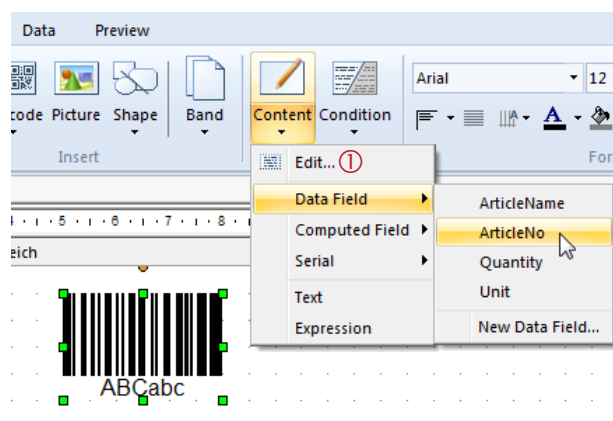

Figure 42: Edit Element Content
In order to edit the content of an existing element, first select the element, then use the menu **Layout ► Edit | Content**. Instead of using the command **Edit...** in ① (see Figure 42) you can also right-click the element and select **Edit Content...** from the pop-up menu, use the keyboard shortcut **F2** or **double-click** the element.